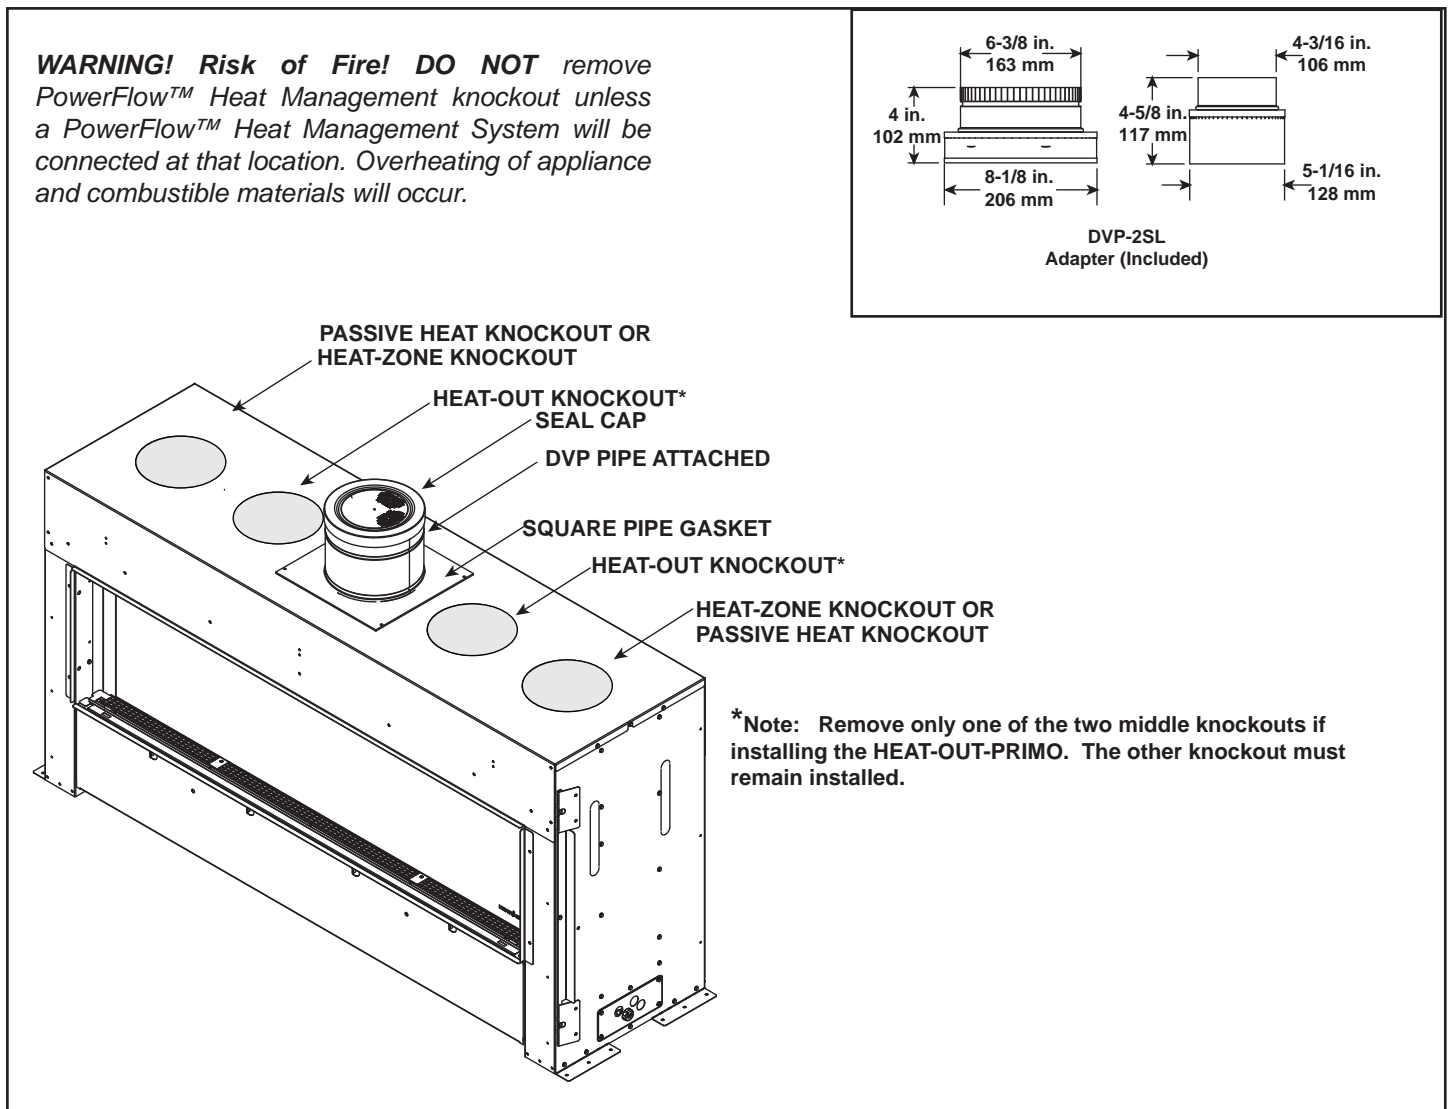

Figure 6.3 Vent Collar Preparation
4. A minimum of one PowerFlow™ Heat Management System is required. Select required PowerFlow™ Heat Management System(s) and remove the appropriate knockout(s) as indicated in Figure 6.3. See Section 6.C for more information.
The PRIMO may utilize two PowerFlow™ Heat Management Systems, but not all are compatible. The HEAT-OUT-PRIMO kit may be used with either HEAT-ZONE-PRIMO or one of the Passive Heat options. HEAT-ZONE-PRIMO can not be used with either of the Passive Heat options. The dedicated knockouts, as shown in Figure 6.3, must be used only as indicated.
- Slide the gasket over the first vent section and place it flush to the appliance. This will prevent cold air infiltration. Secure with four screws. See Figure 6.3.